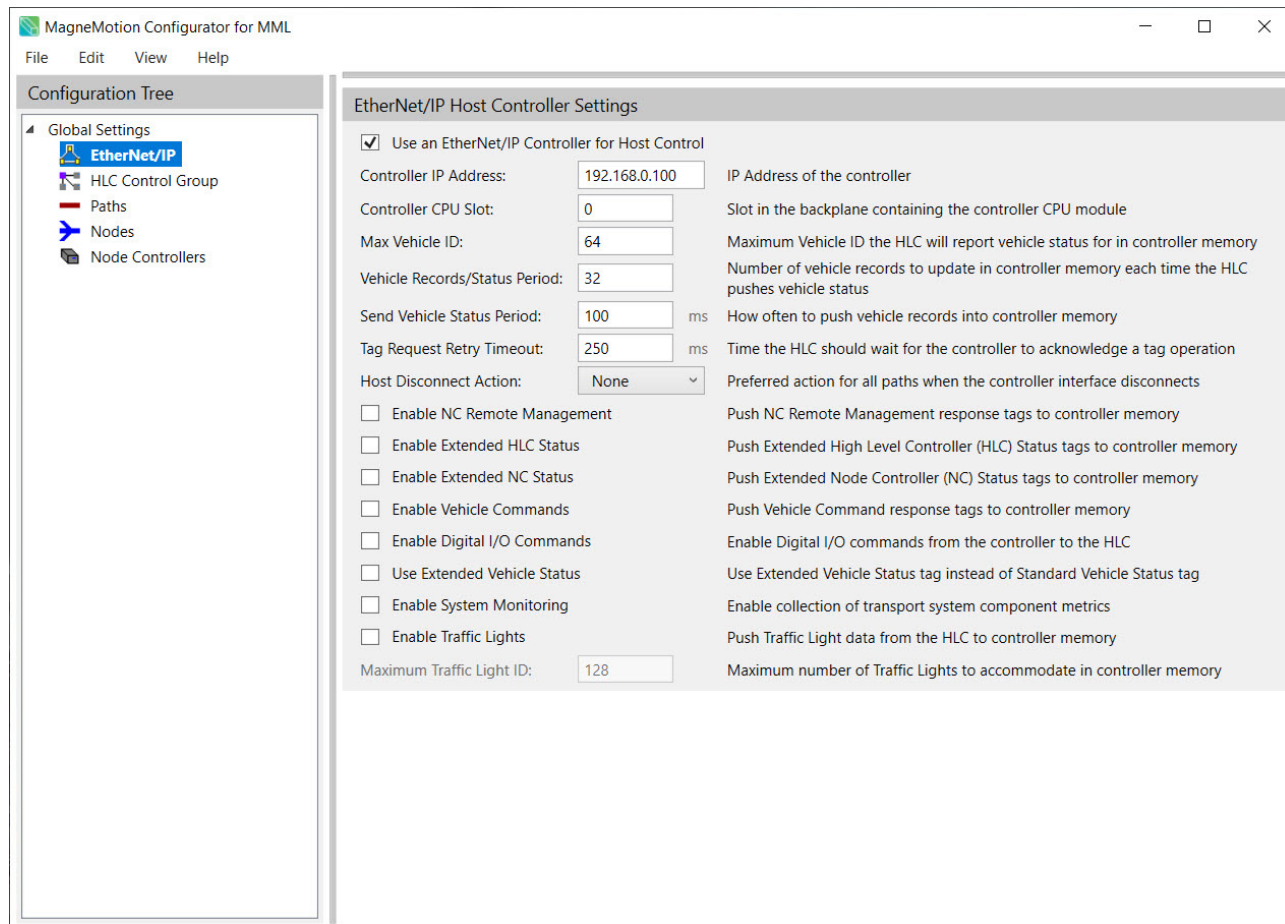

Figure 5-22: EtherNet/IP Settings Page (MM Lite)
- EtherNet/IP is used to communicate with an Allen-Bradley® ControlLogix® controller that is being used as a host controller (see the *MagneMotion Host Controller TCP/IP Communication Protocol User Manual*, publication MMI-UM003 and *MagneMotion Host Controller EtherNet/IP Communication Protocol User Manual*, publication MMI-UM004). The EtherNet/IP Settings page (see Figure 5-22), is accessed by selecting the EtherNet/IP category from the Configuration Tree. See *Set EtherNet/IP Settings* on page 78 for usage.